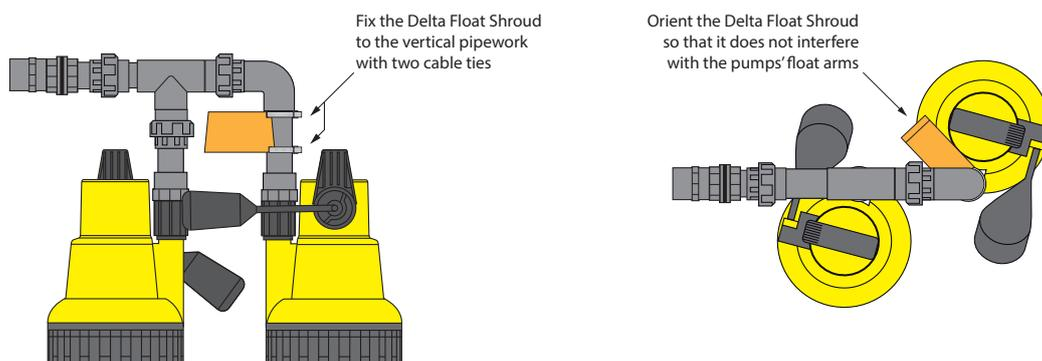

Figure 5. Fixing and orienting the Delta Float Shroud.
2. The Delta Broken Finger Float should be installed in the Delta Float Shroud. The shroud should be positioned on the vertical pipework of the rear pump so that it butts up to the base of the elbow and secured with cable ties. See Figure 5.